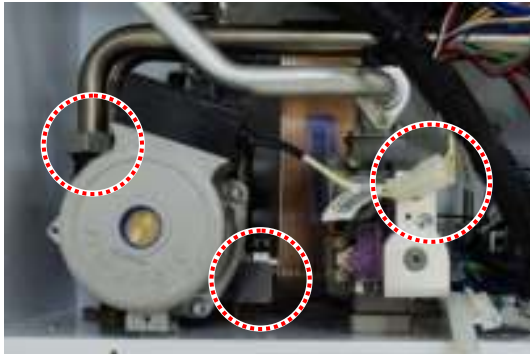

Figure 22
- Remove the stainless nut, fastener and circulation pump wiring connector (Figure 22).